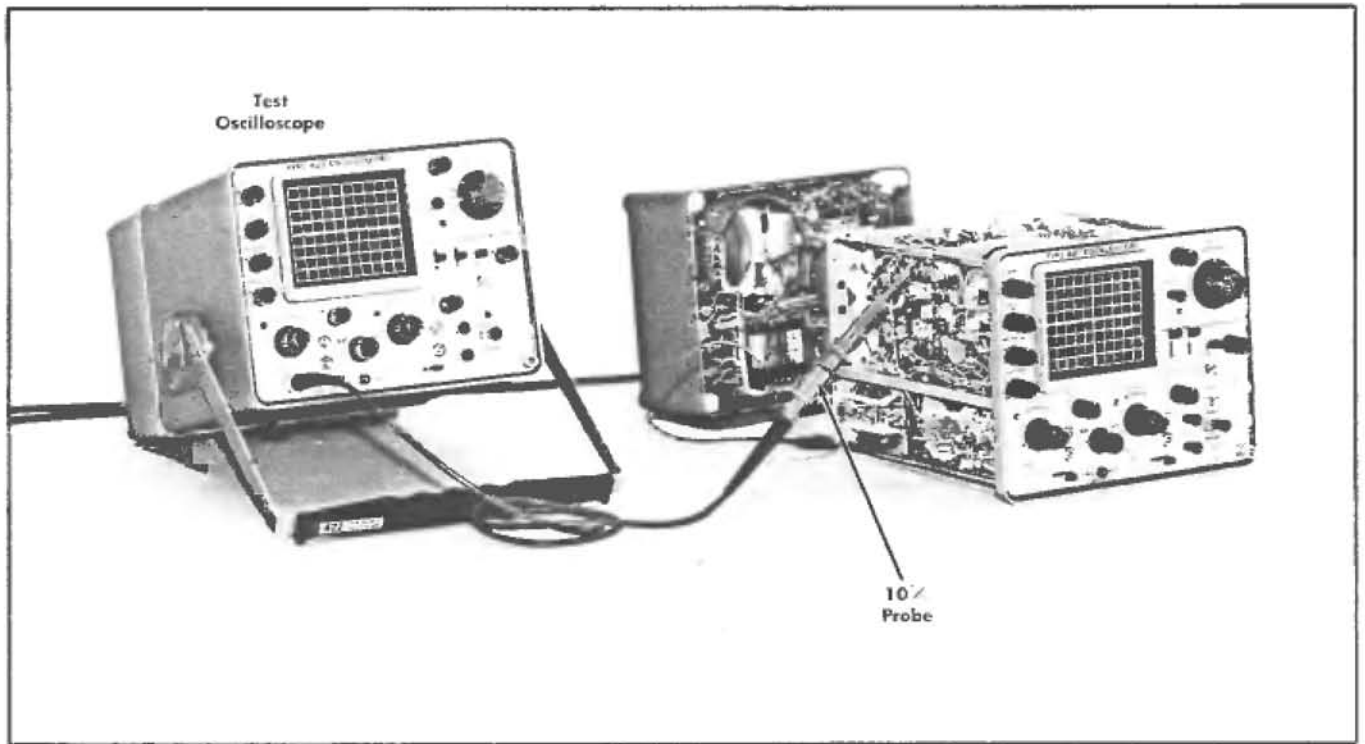

Fig. 6-15. Test equipment setup for step 11.
- a. Test equipment setup is shown in Fig. 6-15.